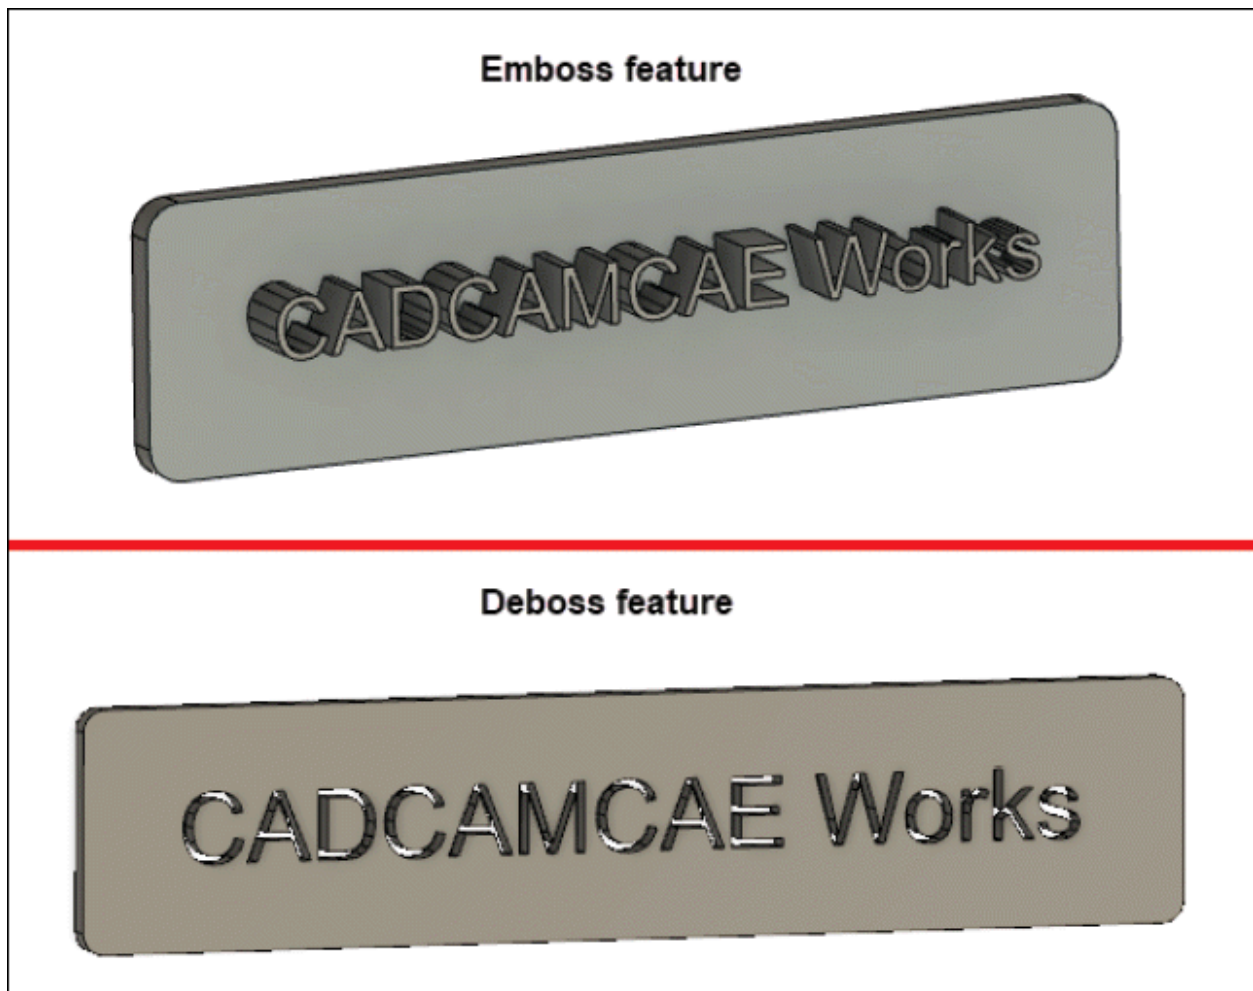

Figure-39. Emboss and Deboss feature created
- After specifying desired parameters, click on the **OK** button from the dialog box. The emboss or deboss feature will be created; refer to Figure-39.